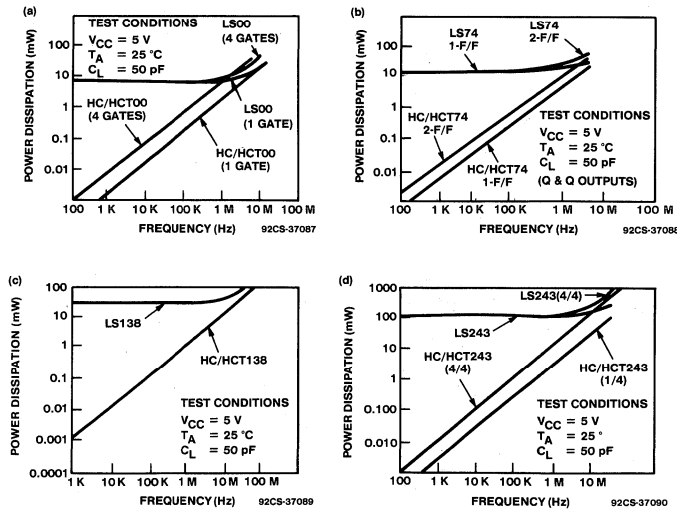

Fig. 31 - Power versus frequency graphs for the (a) LS/HC/HCT00, (b) LS/HC/HCT74, (c) LS/HC/HCT138, and (d) LS/HC/HCT243.
The dynamic power consumption of a QMOS device is frequency dependent, but it should be noted that LSTTL power consumption is also frequency dependent at frequencies greater than 1MHz. At frequencies less than 1MHz, the dynamic component is negligible compared to the static component. The average power consumption of QMOS and LSTTL equivalents is illustrated in Fig. 31 for four device types. Because all of the functions in a multi-functional LSTTL device are biased when power is applied, the QMOS device characteristics are plotted for a single function and for the total package for the purposes of comparison.
Some observations from Fig. 31 are:
- 2) For higher complexity types such as the QMOS HC/HCT 138 3-of-8 line decoder/demultiplexer shown in Fig. 31(c), QMOS power approaches LSTTL power at above 10MHz.
- 3) Fig. 31 implies continuous operation at the frequencies shown, however, most practical applications of logic in microcomputer systems have variable operation or data/address signal rates. The average operating frequency is much below the peak operating frequency, particularly in the 100KHz region where power savings over LSTTL are several orders of magnitude.